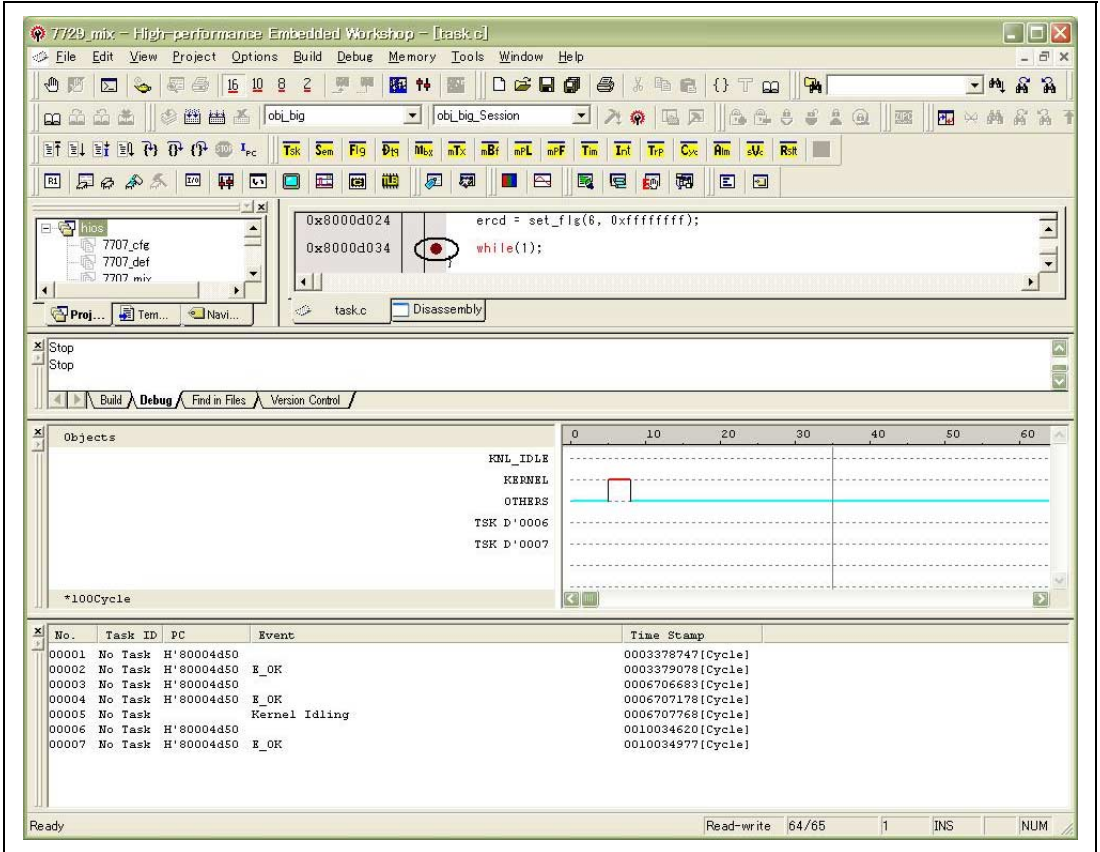

Figure 2.19 Setting a Breakpoint
(19) Selecting [Hide] from the pop-up menu of the [Task] window or [Action Result] window will close this window. Before doing so, a breakpoint has to be set so that execution of the program will stop at the while(1); statement of Task7. To set a breakpoint, double-click the part circled in figure 2.19.